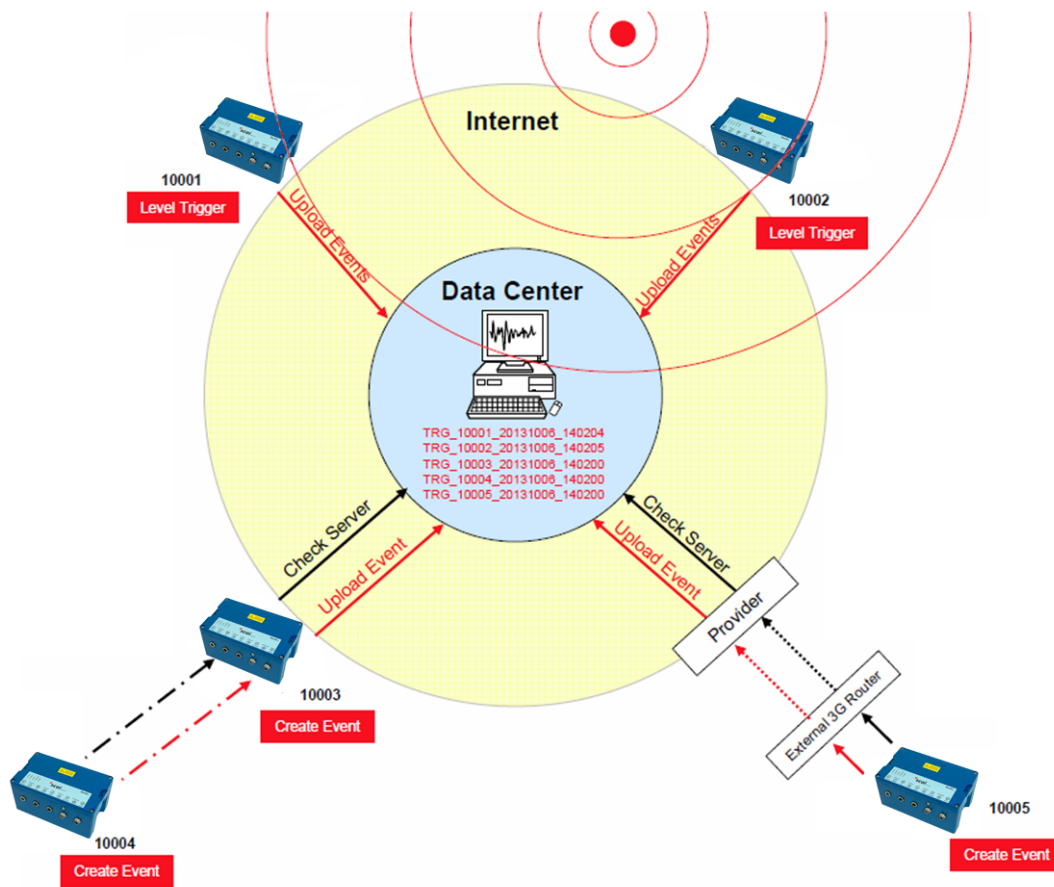

Figure 23: Behaviour on Events: Upload of extracted events
- All instruments will download the request during the next time checking the server (see Figure 23)
- The extracted event file will be uploaded to the data server (see Figure 23)